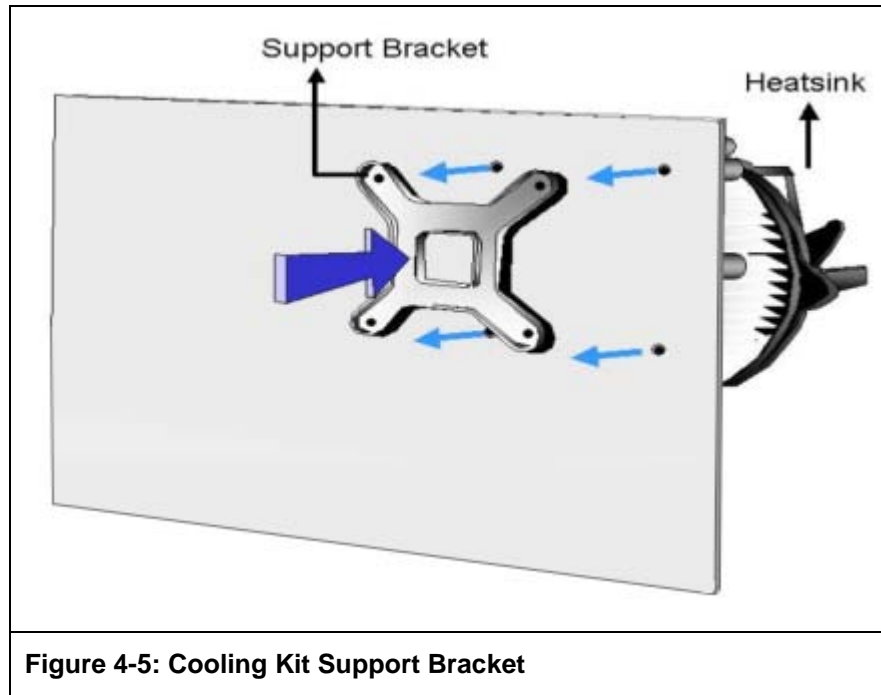

Figure 4-5: Cooling Kit Support Bracket
Step 1: A cooling kit bracket is pre-installed on the rear of the motherboard. See **Figure 4-5**.